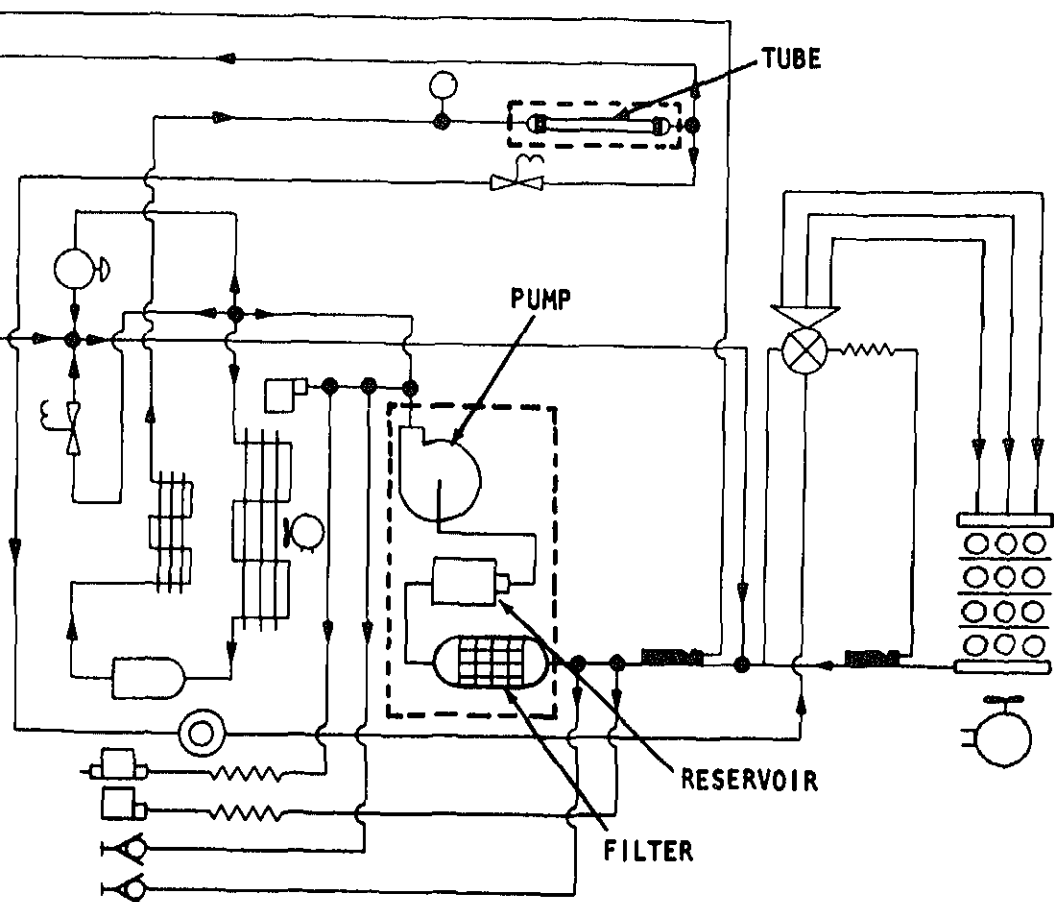

Figure 5-6. Pressure Testing.
b. Set up. Prepare the air conditioner for pretest as shown in figure 5-6 and as directed in the following steps.
(1) Make sure that the fresh air damper is closed, and that the evaporator air intake and discharge grilles are fully open.
(2) Hang an accurate thermometer directly in front of the evaporator air intake grille to register "dry bulb temperature."
(3) Hang an accurate thermometer directly in front of the condenser coil guard, making sure that the thermometer is not in direct sunlight, to record "outdoor ambient temperature."